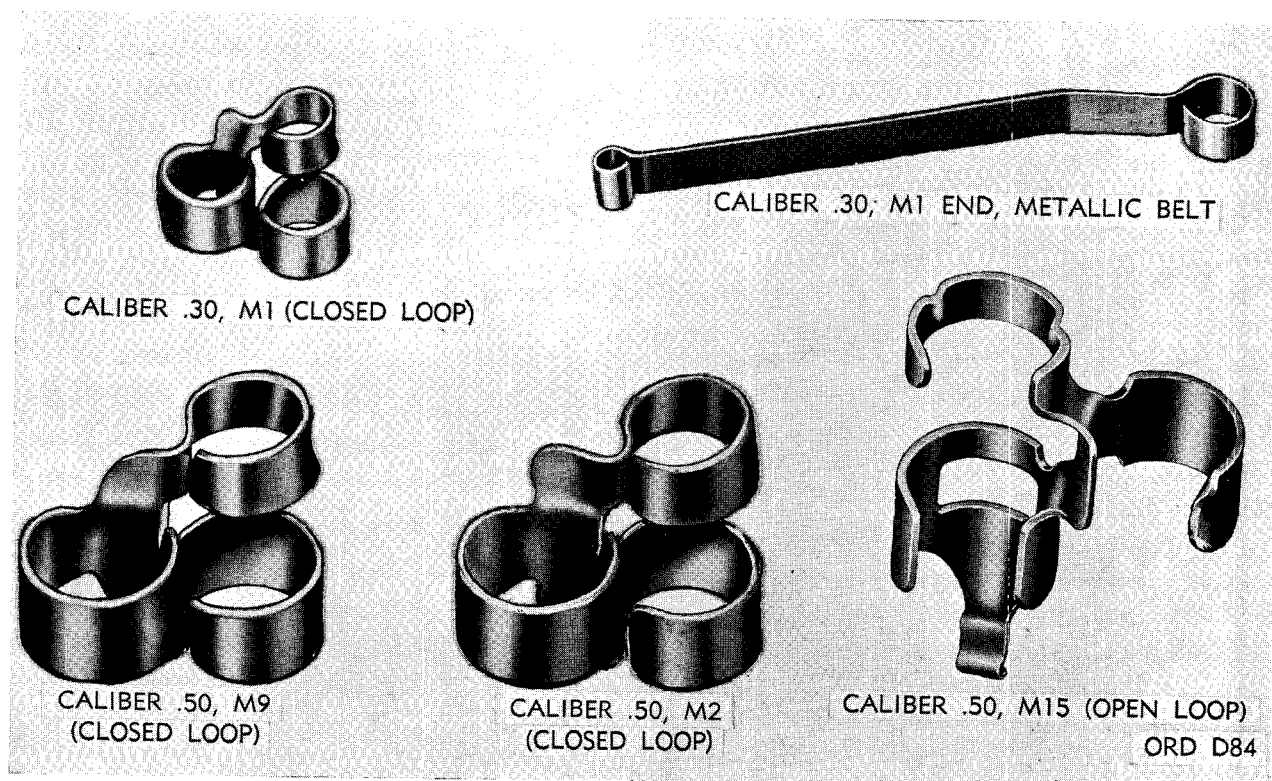
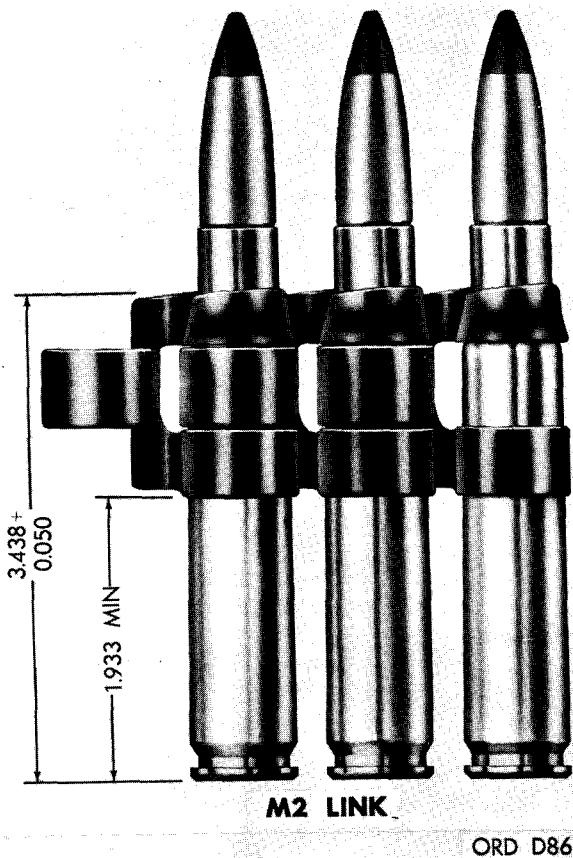

Figure 18. Cartridge links and metallic belt end.
Figure 20. Link cartridges with caliber .30 and caliber .50 ammunition.
up of unit cartridge links (figs. 18 and 19) and cartridges, one link for each cartridge. Each link has 2 loops fitting about 1 cartridge and a third loop fitting around 1 adjacent cartridge. Thus, each cartridge in a metallic link belt excepting the end cartridges, has two links attached to it (fig. 20). Cartridge links are made of steel which has been processed to prevent rusting. They are manufactured and tested to assure satisfactory ammunition feed and functioning under all service conditions.
- (1) *Closed loop links.* Caliber .30, M1 and caliber .50, M2 and M9 cartridge links are manufactured with closed loops (fig. 18). When assembled with the cartridges in belts, these links seat on the shoulder of the cartridge (fig. 20) to hold them in proper alignment for feeding into the weapon. This design requires the cartridge to be extracted from the rear and dropped into position for moving into the chamber for
- (2) *Open loop links.* The 7.62-millimeter, M13 (fig. 19) and the caliber .50, M15 (fig. 18) links are manufactured with partially open loops and have a positioning finger on one side which snaps into the extractor groove of the cartridge. This design permits the bolt of the weapon to push the cartridge forward and out of the link into the chamber for firing. Weapons using this type link are manufactured with a shorter receiver.
- (3) *Metallic belt ends.* A metallic belt end, caliber .30, M1 (fig. 18) is attached to metallic link belts of caliber .30 cartridges packed in metal boxes for ground machinegun use. The belt end facilitates starting the belt of cartridges through the gun, as well as aiding in locating the end of the belt in the box.